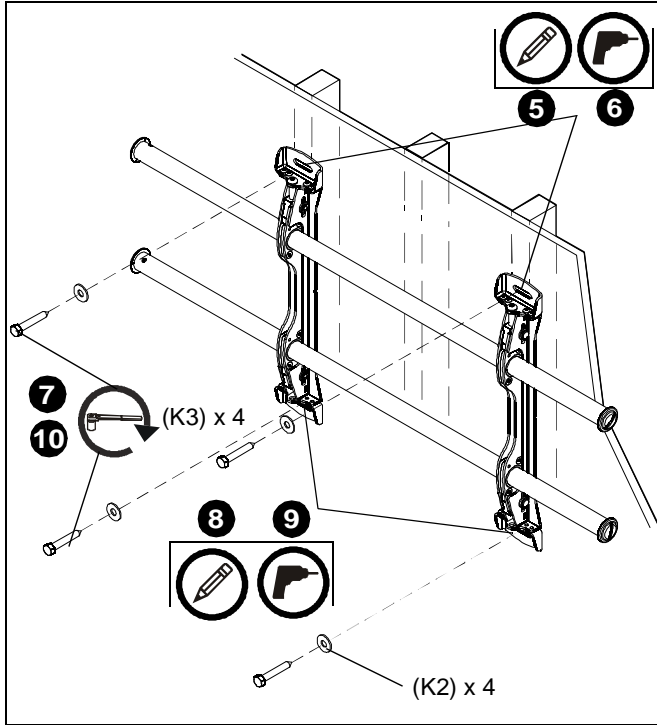

Figure 2
5. Using a level, mark the wall on each stud to attach the mount through the upper mounting slots. (See Figure 2)
7. Use two 5/16 x 2-1/2" lag bolts (K3) and two 5/16" flat washers (K2) to attach top of mount to wall. (See Figure 2)
8. Mark the attachment points for the lower mounting slots, making sure the attachment points are located on the studs. (See Figure 2)
9. Drill 7/32" pilot holes at markings for lower mounting holes. (See Figure 2)
10. Use two 5/16 x 2-1/2" lag bolts (K3) and two 5/16" flat washers (K2) to attach the mount to the wall through the lower mounting holes. (See Figure 2)